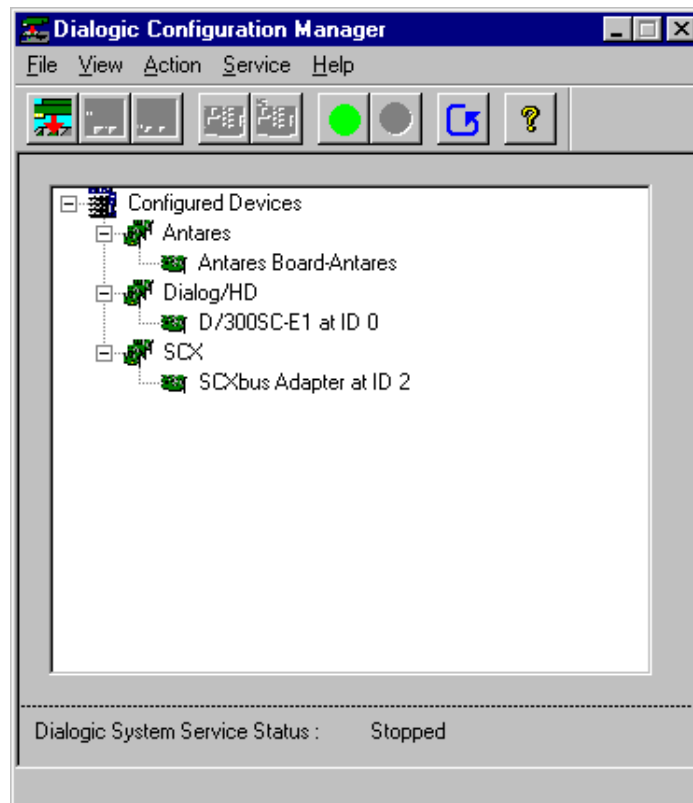
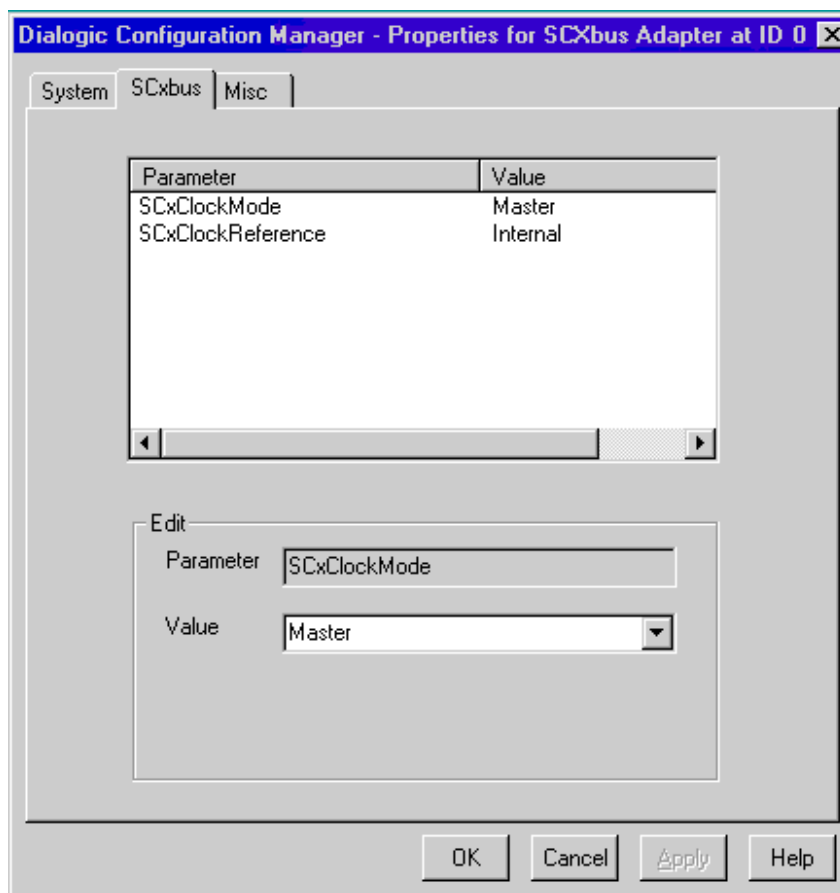

Figure 38. Dialogic Configuration Manager Window
Figure 39. Properties for SCxbus Adapter screen
25. The program now returns to the Dialogic Configuration Manager window (see *Figure 38*). Double-click on the SCxbus Adapter and the Properties for SCxbus Adapter screen displays (*Figure 39. Properties for SCxbus Adapter screen*).
26. Click on the SCxbus tab to display the current SCxClock settings (*Figure 39*).
28. The system returns to the Dialogic Configuration Manager window. Start the Dialogic Service by clicking on the **Green** button at the top of the screen (*Figure 38*).
- Choose **Auto Detect Devices** from the action drop down menu in the Dialogic Configuration Manager (*Figure 38*).